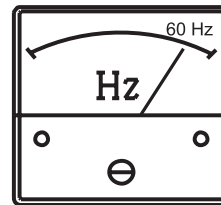

Figure 9. Frequency Meter
5. The generator's **frequency meter** (Figure 9) should be displaying the 60-cycle output frequency in **HERTZ**.